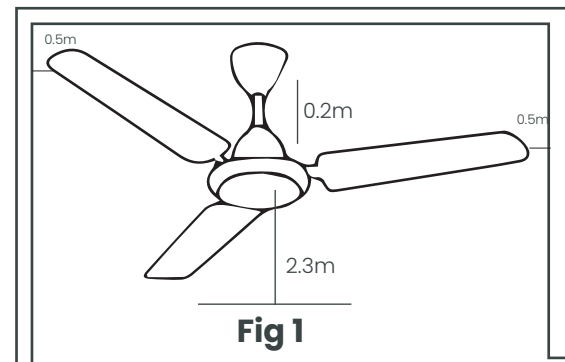

Fig 1
1. Minimum space for Installation (see Fig 1)